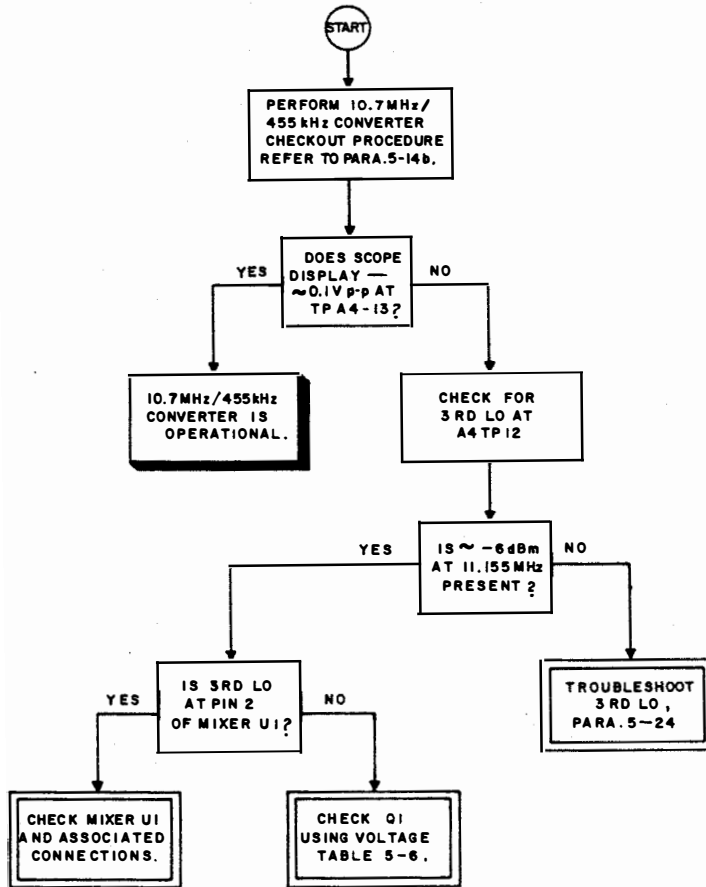

Figure 5-12. 10.7 MHz/455 kHz Converter Fault Logic Diagram
- (1) Figure 5-12, 10.7 MHz/455 MHz Converter Fault Logic Diagram.
- (2) Table 5-6, 10.7 MHz/455 kHz Converter Voltage Table.
- (3) FO-5, 10.7 MHz/455 kHz Converter Schematic Diagram.
- (4) 10.7 MHz/455 kHz Converter circuit description, paragraph 3-31.